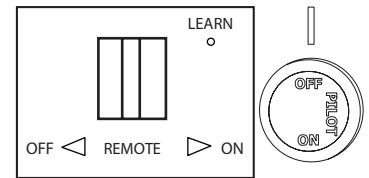

Fig. 26 - Receiver & Control Knob
2. Set receiver switch to "ON" position (See Fig. 26).
3. Turn control knob clockwise  to the "OFF" position (See Fig. 26).
4. Wait five (5) minutes to clear out any gas. Then smell for gas, including near the floor. If you smell gas, STOP! Follow "B" in the safety information as noted above. If you don't smell gas, go to the next step.
5. Push in slightly and turn control knob counterclockwise  to the "PILOT" position (See Fig. 26). Depress control knob.